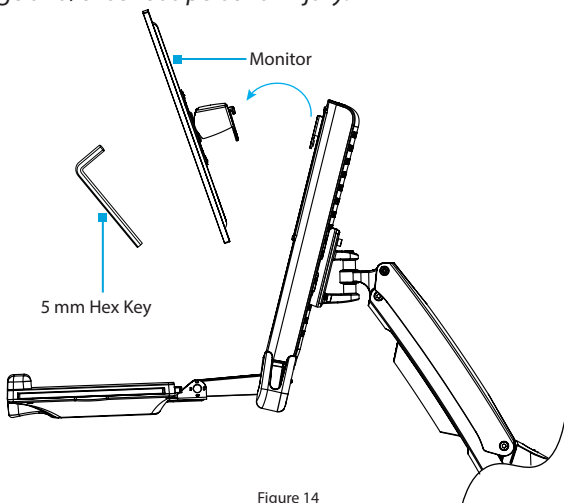

Figure 14
3. Lift the **VESA Monitor Mount** off the **Plate**, located on the **Column**. (Figure 14)